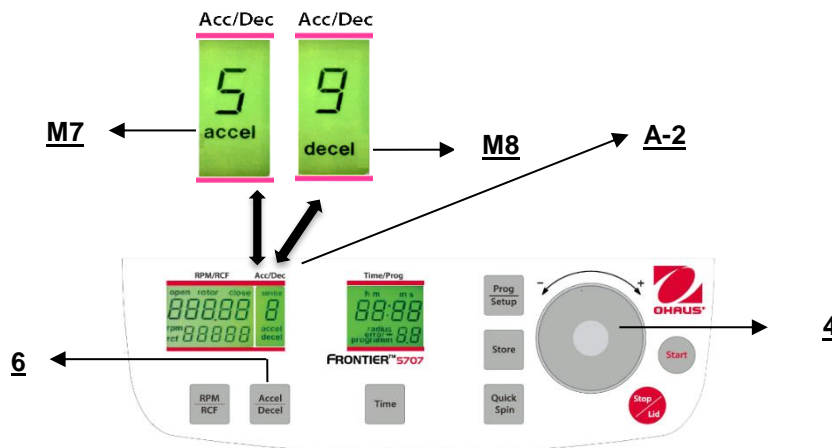

Figure. 18
This function is activated through the key "Accel/Decel" (6) (refer to figure 18).